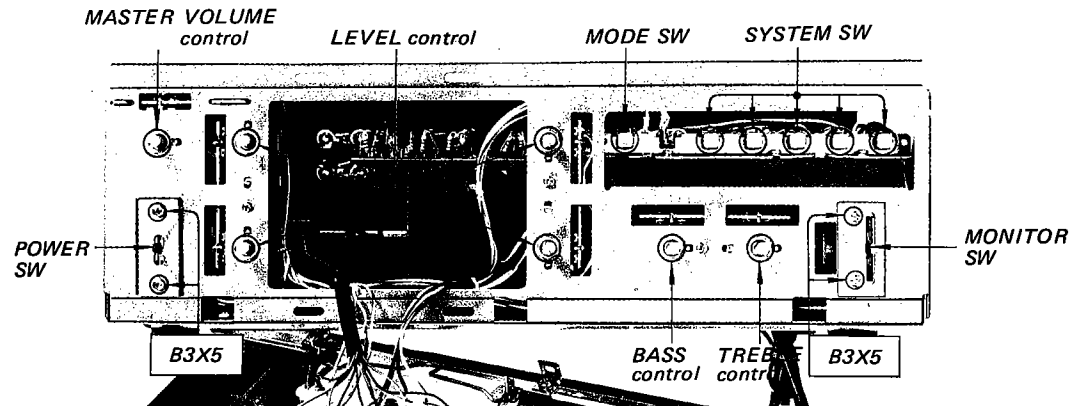

Fig. 2-8. Control replacement
2. All controls can be removed by taking out the screws or nuts as illustrated in Fig. 2-8.